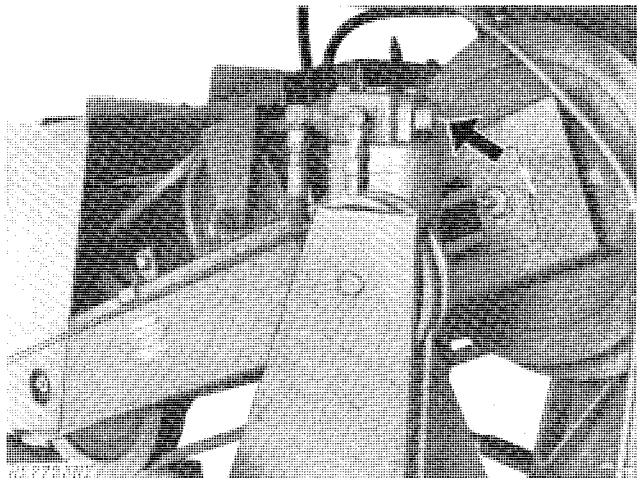

FIG. 46-Bleed Screw
2. Open bleed screw (Fig. 46) approximately 1/2 turn with a 3/8-inch open end wrench. Use a suitable container to catch oil flowing out of bleed screw. Approximately one quart of hydraulic oil will bleed out of each cylinder. It will take approximately two minutes for each leveling cylinder to retract. Oil will stop flowing automatically from the bleed screw, when the cylinder is fully retracted. To eliminate possible contamination of the hydraulic system, discard oil bled from cylinders and do not attempt to reuse.